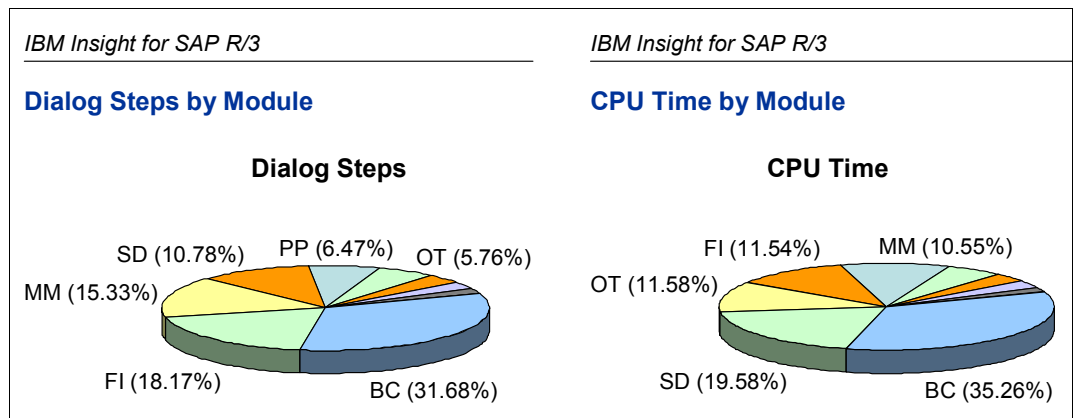

Figure 27-9 IBM Insight - Dialog Steps versus CPU Time by Module
- Comparison of dialog steps versus CPU time by module as shown in Figure 27-9.